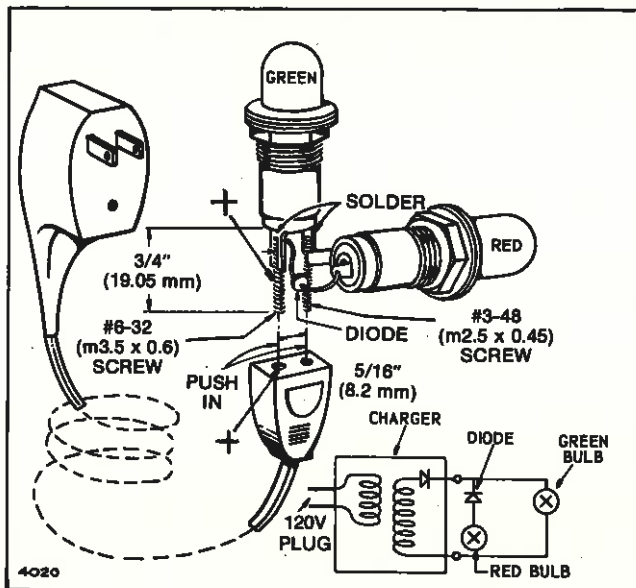

Fig. 52 — Battery Tester
- C. Faulty battery charger. See Fig. 52.
These components are soldered together as shown in the accompanying illustration, Fig. 52. if desired, these components may be fitted to a plastic case.